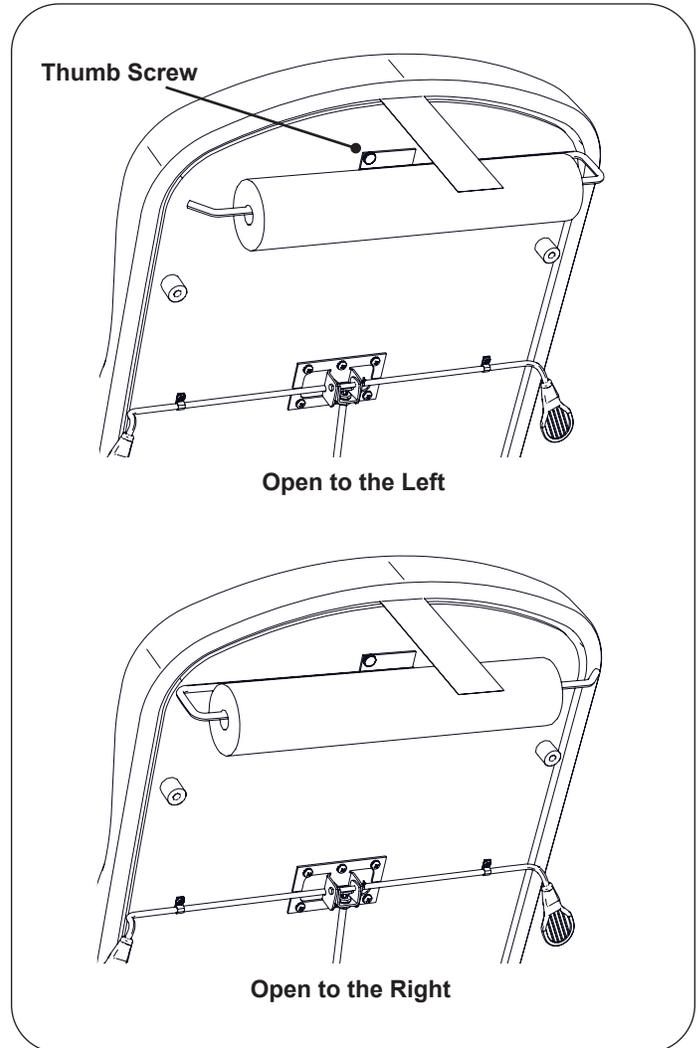

Figure 7. Installing the Paper Roll Holder
1. Determine which orientation is desired for the paper roll holder. (See two options in Figure 7.)